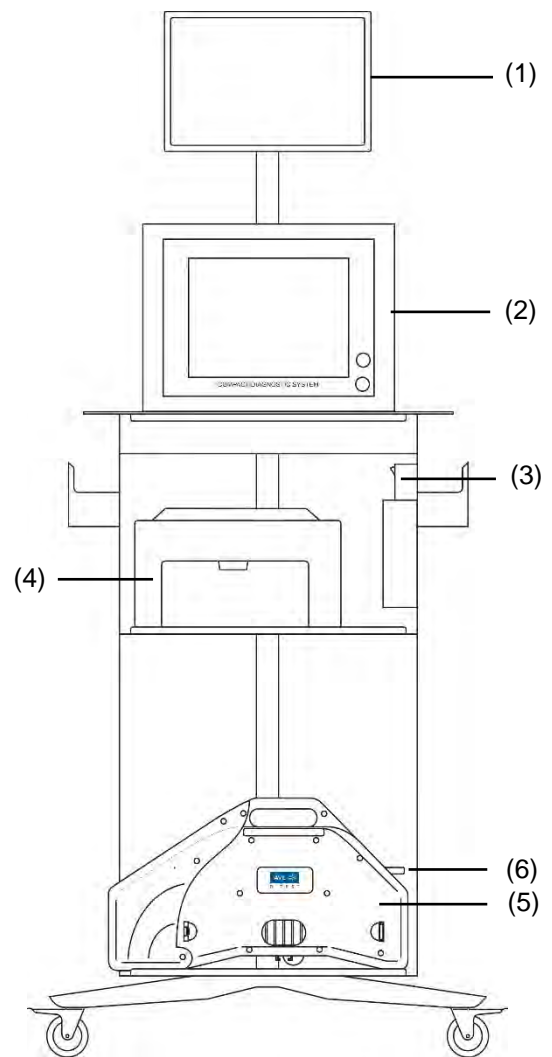

Fig. 2-1
21. Connect the exhaust probe with the connector hose to the GAS IN (1) connector.
22. Switch the power strip on; see Fig. 2-1.